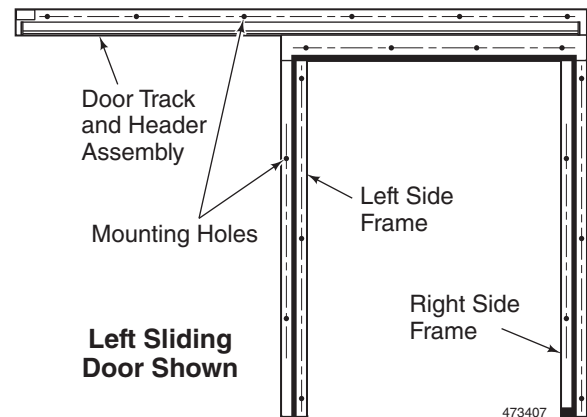

Figure 2
3. At job site, drill 5/16" holes in the frames and headers for mounting to the backing in the wall. Space holes 6" in from the end, then every 36" (18" for track header when nylon threaded rods are used). See *Figure 2*.
Attach the frames to the wall with the fasteners that are provided. Verify that the frames are still plumb and square to the door opening. See *Figure 2*.